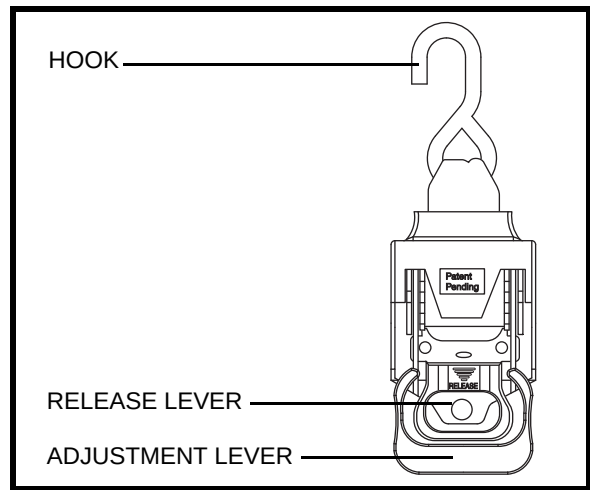

Figure 15. Retractable Tie-down Strap
- Squeeze together the release and adjustment levers on the retractable tie-down strap and simultaneously bring both levers forward to a 90-degree position until they “click” then lock into place. This will unlock the tie-down strap. See figures 15 and 16.
- Once each strap is secured in the proper position, squeeze together the release and adjustment levers and simultaneously bring both levers rearward to their original positions. This will lock the tie-down strap. See figures 15 and 16.